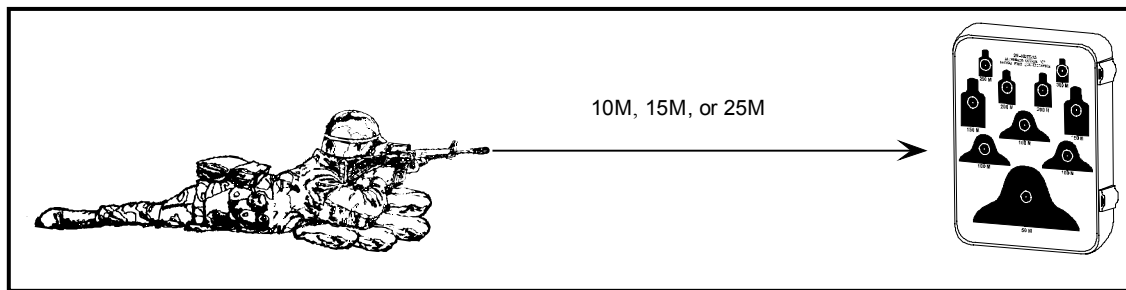

Figure C-4. Exercise 4.
Step 1. The soldier assumes the proper firing position using sandbags in the supported position (Figure C-4).